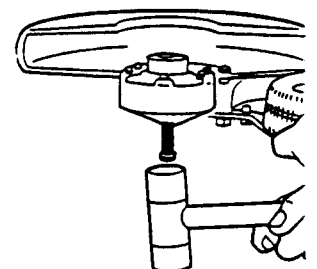

FIG 28
3. Carefully push new blade shaft #43114 up into bearing and tap through carefully so washers, crown gear and spacer remain in position and the 3/8 bolt is pushed out (Fig. 28).